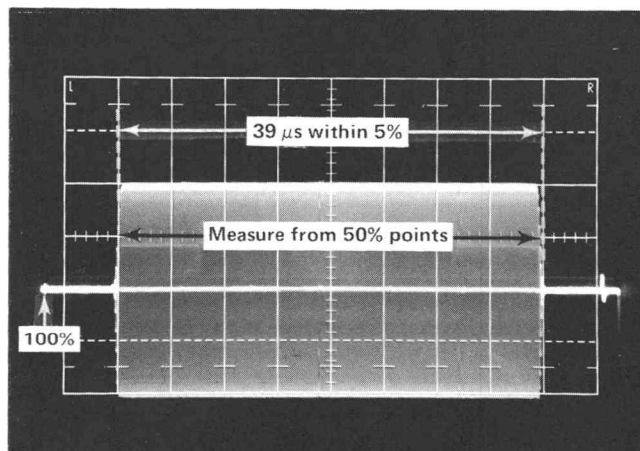

Fig. 5-35. Typical display obtained when checking staircase modulation duration.
f. CHECK—Test oscilloscope display; duration of modulation must be  $39 \mu\text{s}$  within 5% as measured from the 50% points; see Fig. 5-35.